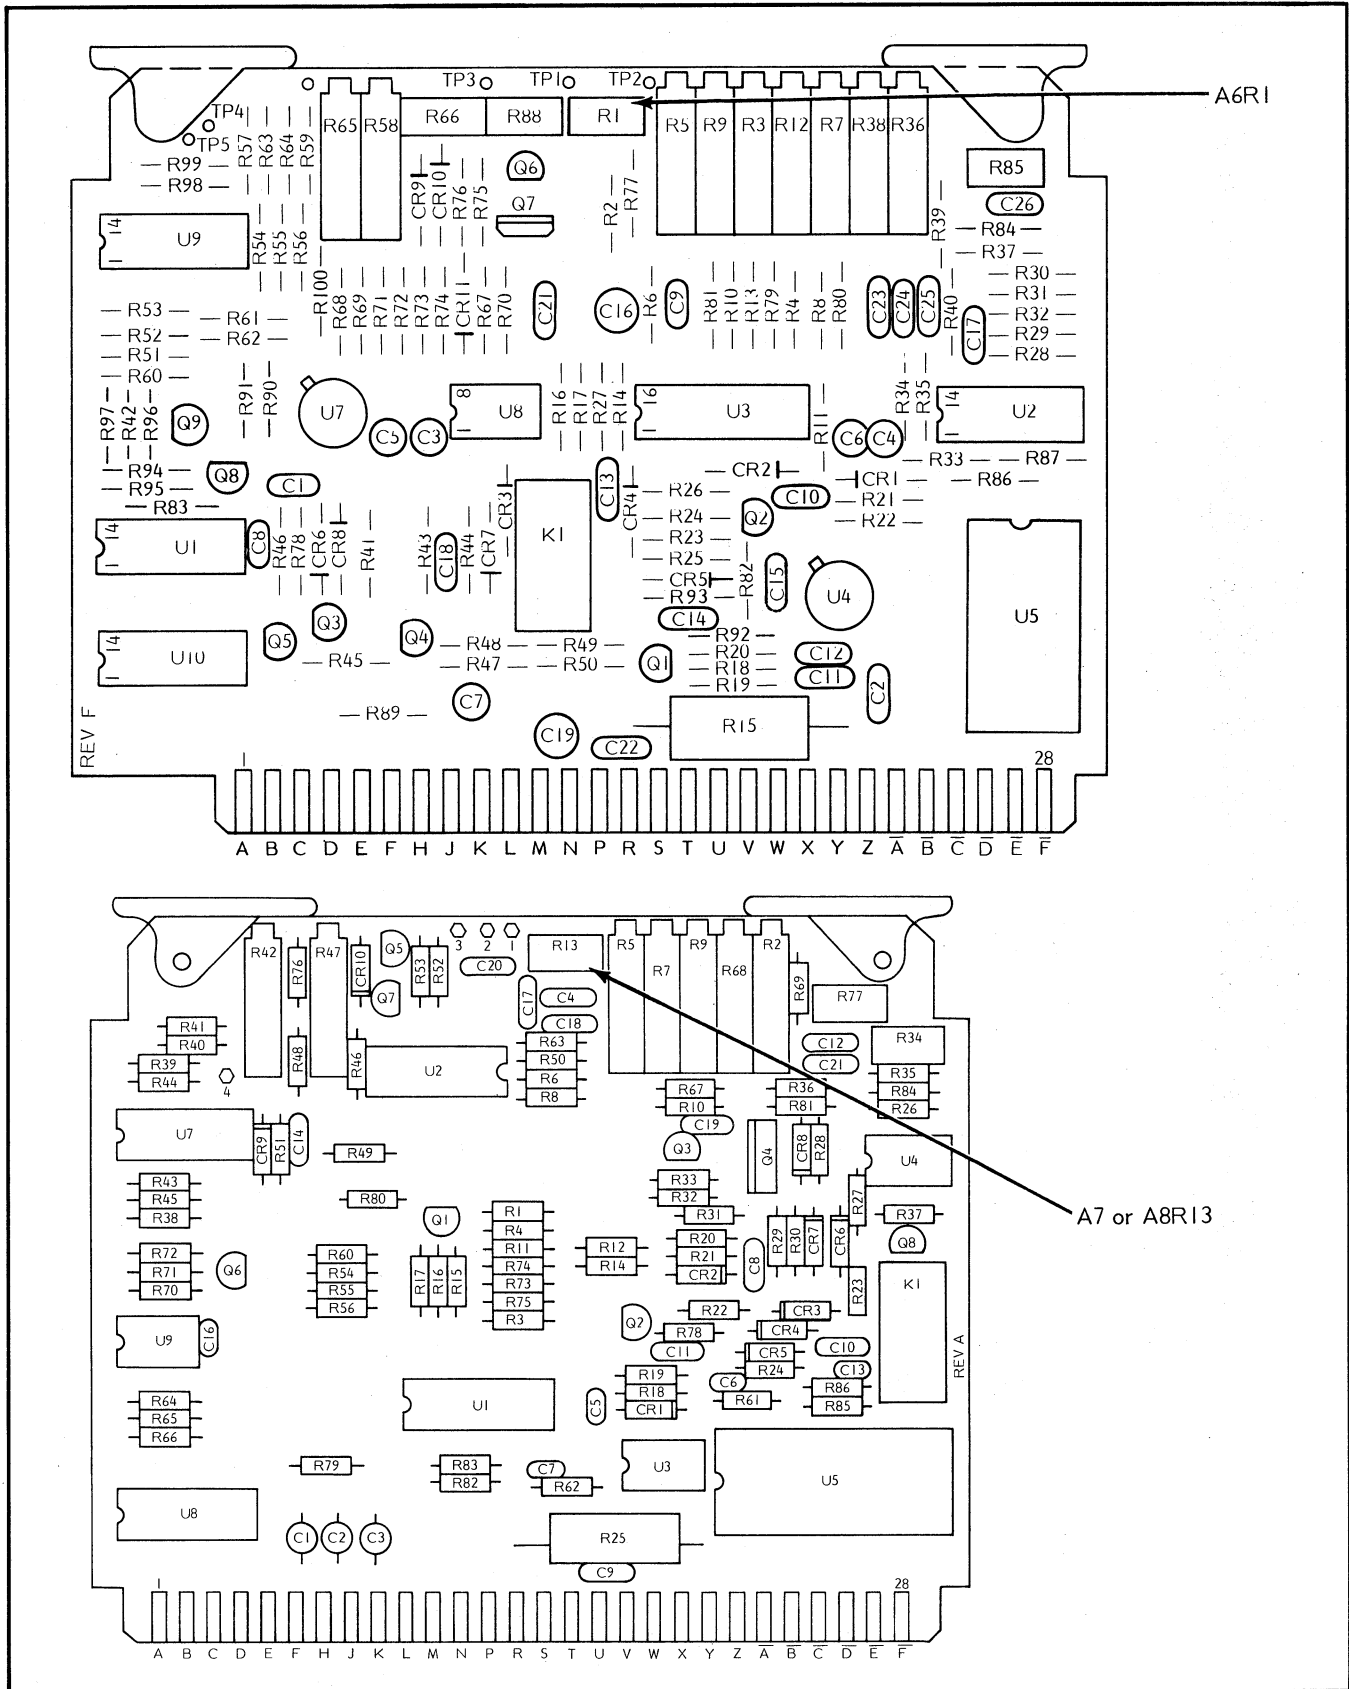

Figure 5-35. Sweep Rate Compensation Adjustments
3. adjust A6R1 (Figure 5-35) for a minimum frequency shift, as indicated by the selected perturbation.